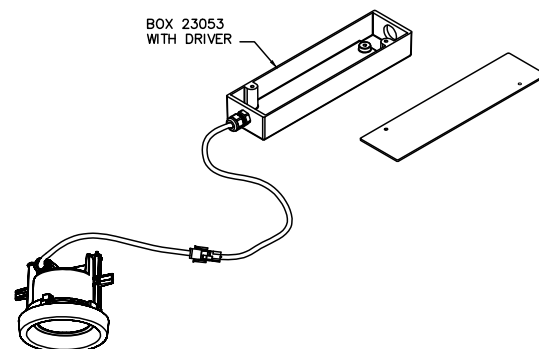

Figure 1
7. Integral LED module and ceiling box with LED Driver included (**Figure 1**).